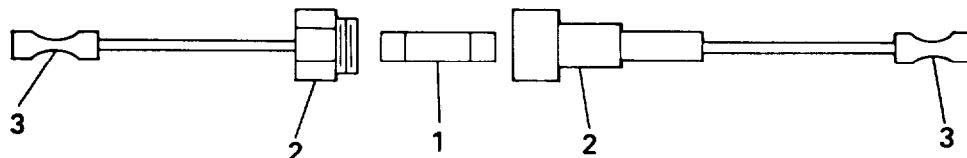
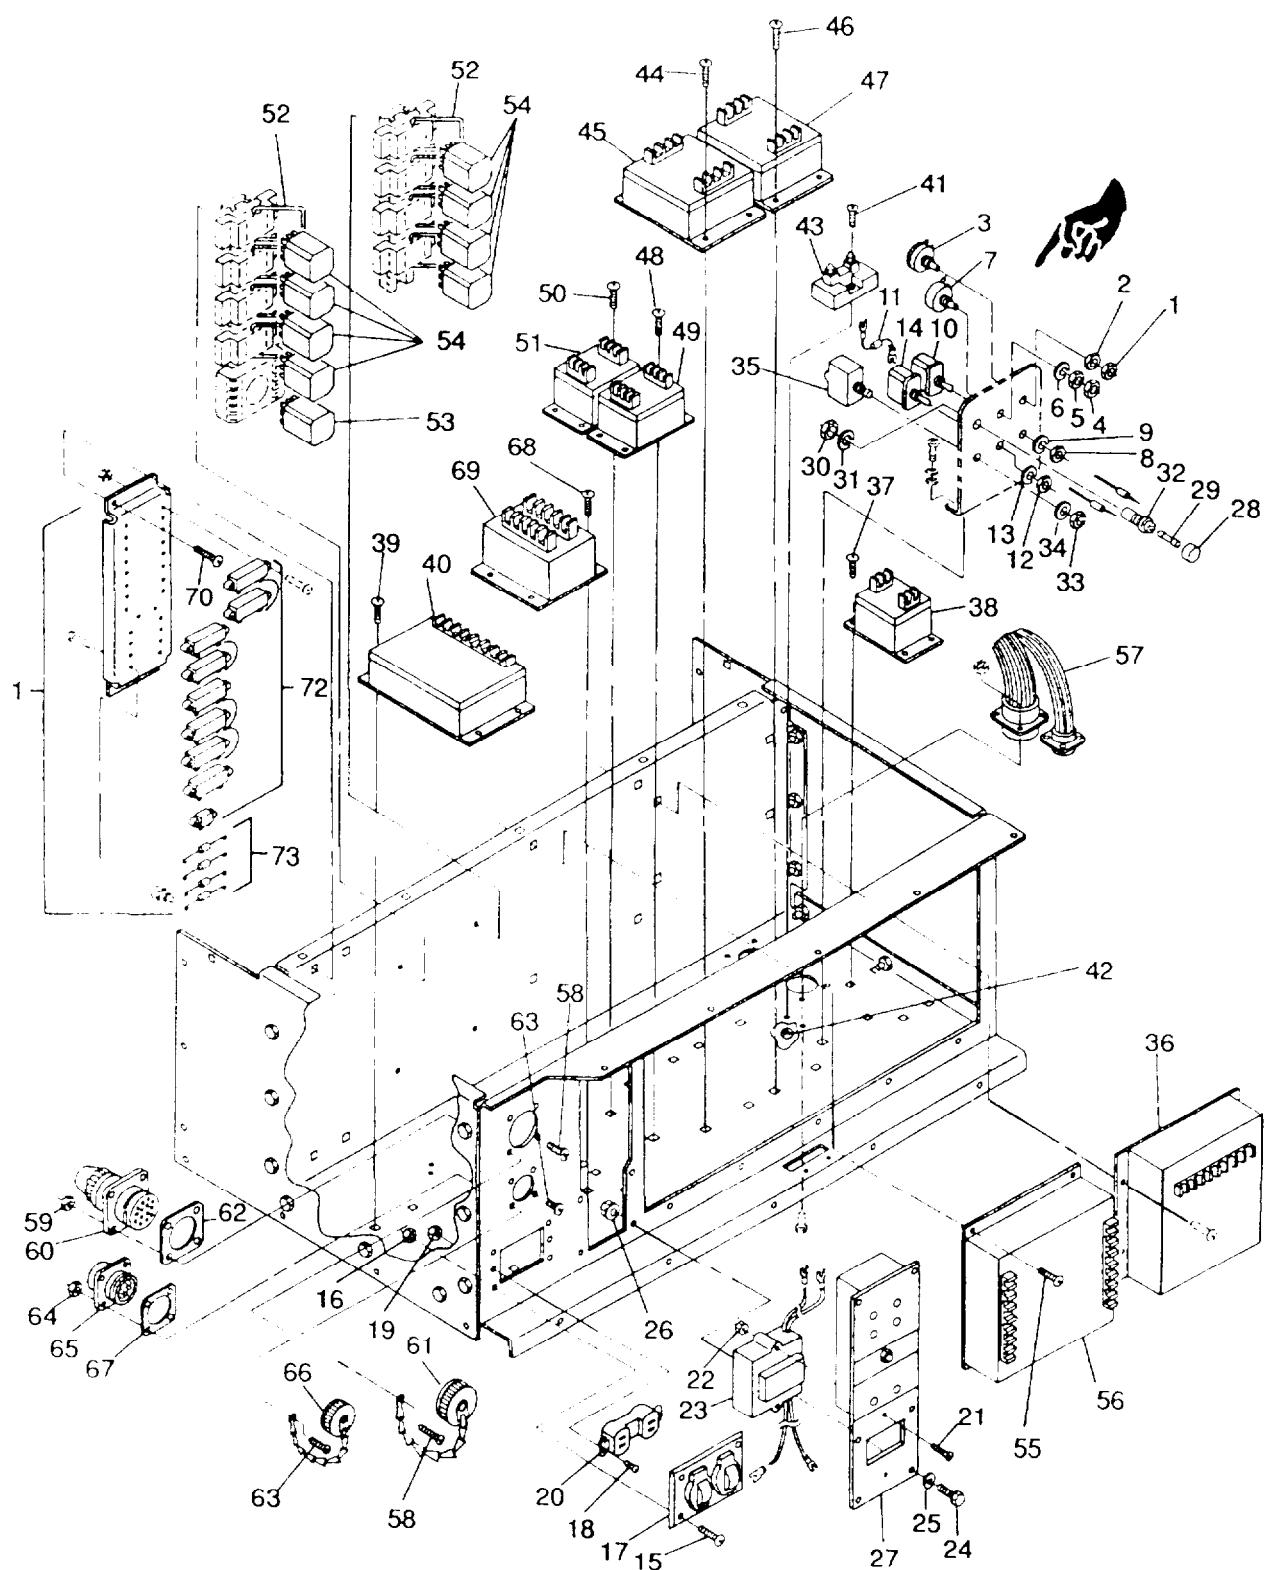

FIGURE 2-13.1. In-Line Fuse Installation
FIGURE 2-14. Control Box Components
- c. Remove malfunction indicator panel screws (24, FIGURE 2-14), washers (29, and nuts (26). Lay malfunction indicator panel to the side
- d. Cut black wire on load side of GROUND FAULT CIRCUIT INTERRUPTER (23)
- e. Strip wires on in-line fuse holder (2, FIGURE 2-13.1) and install butt splices (3) at each end. Connect ends of black wire to in-line fuse holder butt splices (3).
- f. Install fuse (1) in fuse holder (2)
- h. Install malfunction indicator panel (27, FIGURE 2-14), screws (24), washers (25), and nuts (26)
- a. Install GROUND FAULT CIRCUIT INTERRUPTER (23, FIGURE 2-14) in malfunction indicator panel with screws (21) and nuts (22).
- b. Connect electrical leads to TB4 and KS, and convenience receptacle (20). Remove tags.
- e. Disconnect multi-pin connector at rear of malfunction indicator panel (27, FIGURE 2-14).
- f. Remove bolts (24), washers (25), and nuts (26).
- g. Remove malfunction indicator panel (27) from control panel.
- a. Install malfunction indicator panel (27, FIGURE 2-14) in control panel with bolts (24), washers (25), and nuts (26).
- d. Remove cap (28, FIGURE 2-14) and fuse (29) from fuse holder (32)
- e. Tag and unsolder electrical leads from fuse holder (32).
- f. Remove nut (30), lockwasher (31), and fuse holder (32).
- i. Connect electrical leads to circuit breaker (35) and remove tags.
- d. Remove nut (33, FIGURE 2-14) and flatwasher (34).
- e. Remove DC CONTROL POWER circuit breaker (35) from mounting bracket.
- f. Tag and disconnect DC CONTROL POWER circuit breaker (35) electrical leads.
- b. Insert DC CONTROL POWER circuit breaker (35, FIGURE 2-14) into mounting bracket.
- c. Install flatwasher (34) and nut (33).
Inspect AC voltage regulator (36, FIGURE 2-14) for cracked case, broken wires, security, and other damage.
- d. Tag and disconnect frequency transducer (38, FIGURE 2-14) electrical leads.
- e. Remove screws (37) and frequency transducer (38).
- a. Install frequency transducer (38, FIGURE 2-14) with screws (37).
- d. Tag and disconnect kilowatt transducer (40, FIGURE 2-14) electrical leads.
- e. Remove screws (39) and kilowatt transducer (40).
- a. Install kilowatt transducer (40, FIGURE 2-14) with screws (39).
- c. Tag and disconnect shunt (43, FIGURE 2-14) electrical leads.
- f. If no repair is needed, connect electrical leads to shunt (43) and remove tags.
- e. Tag and disconnect shunt (43, FIGURE 2-14) electrical leads.